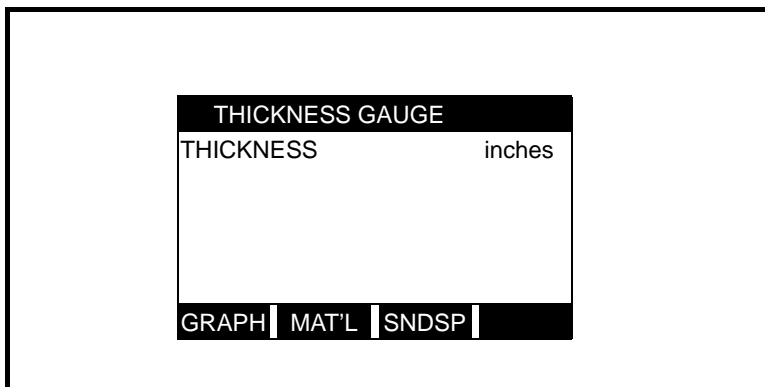

Figure 9-4: Ultrasonic Thickness Gauge Screen
1. Enter the Calibration Menu by pressing the [CAL] key; then press [F3] to select "WALL." A screen similar to Figure 9-4 below should appear.